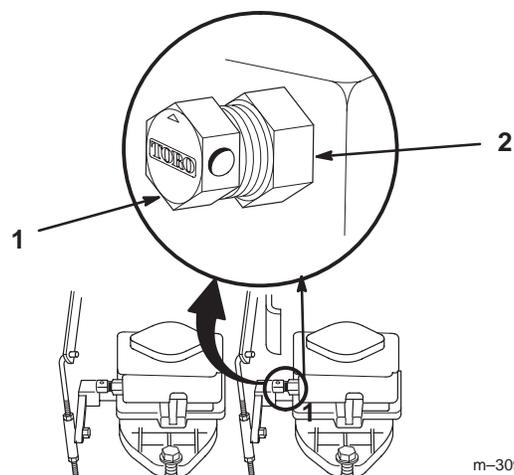

Figure 30
1. Loosen large jam nut several turns (Fig. 30).
2. Gently close by-pass valve (Fig. 30).
3. Open by-pass valve 1/2 turn (Fig. 30).
4. Tighten jam nut to lock the adjustment (Fig. 30).